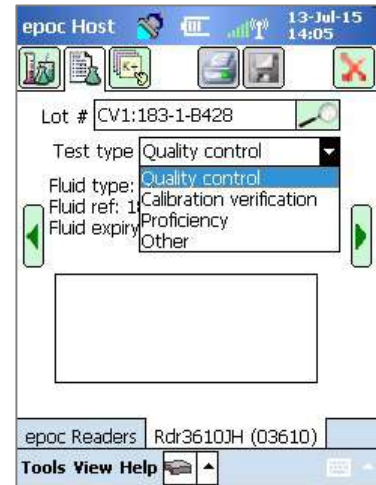

Fig. 17.
3. Select a test type from the dropdown menu (Fig. 17).